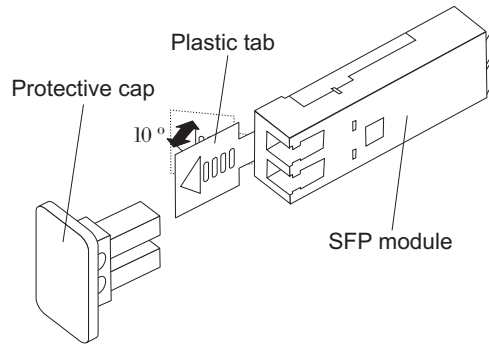

Figure 24. Unlocking the SFP module latch - plastic variety
- For SFP modules that contain plastic tabs, unlock the SFP module latch by pulling the plastic tab outward 10°, as shown in Figure 24 on page 41.